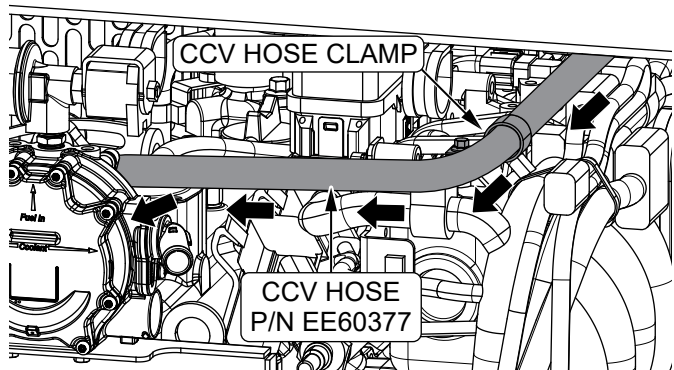

Figure 20. Route CCV Hose Through Clamp
11. Route the **new CCV hose (P/N EE60377)** from the rear of the engine bay to the front, through the **CCV hose clamp** that was loosened earlier (Figure 20). Then connect the hose to the **CCV** (Figure 21).
12. Connect the other end (Figure 22) of the **CCV hose (P/N EE60377)** to the **brass fitting (P/N 369007)** installed on the **intake pipe (P/N 52232)**. Tighten the **CCV hose clamp (Figure 20)**.